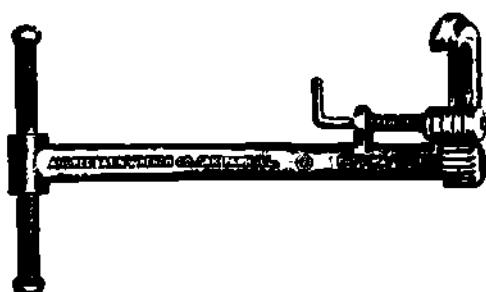

Figure 1-137. Basin Wrench
- The handy basin wrench shown in Figure 1-137 fits where no other standard wrench will, such as in water-closet tanks, under basins, or in tight corners.